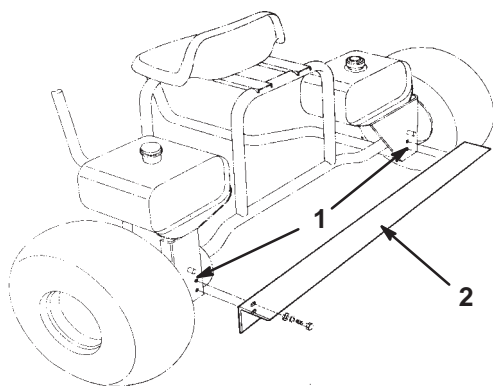

Figure 1
2. Remove the existing 4 cap screws, lock washers, and flat washers from the back of the left and right wheel motor mounts (Fig. 1).